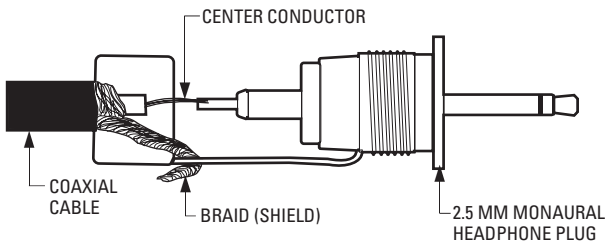

Figure 18. Attaching the 2.5 mm Monaural Headphone Plug
2. Attach the 2.5 mm monaural plug to the other end of the coaxial cable (refer to Figure 18):